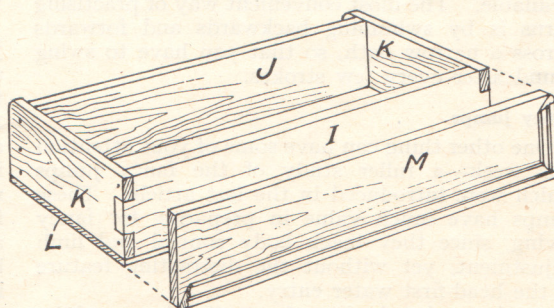

Fig. 2—The drawer with front away to show detail
The construction of the drawer is clearly illustrated in Fig. 2. The lock joint adopted as a connection between the front (I) and the sides (K) needs a little care in setting out and cutting. The latter is most easily done with the fretsaw. This form of joint makes a strong connection and its end grains are well covered with the main drawer front (M) which is glued and screwed on.